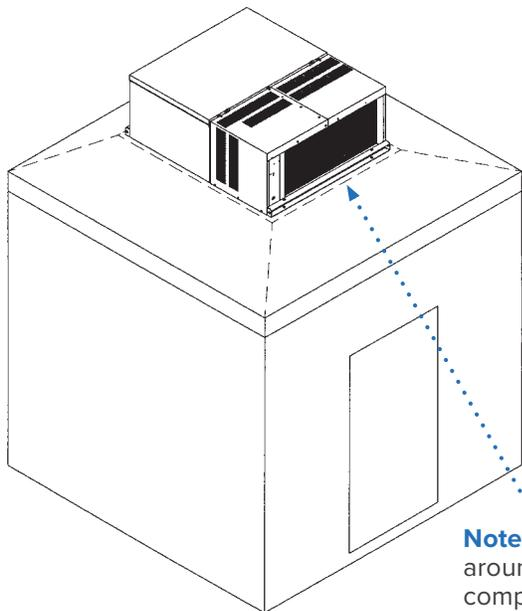

Figure 3. Outdoor unit placed on roof of walk-in cooler. (see rigging instructions).
5. Place PRO³ system onto curbing and center over opening in roof box. (See Figure 3, page 7)